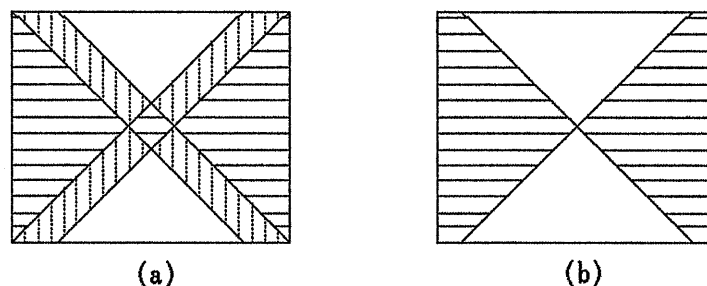

Figure 4-2
⑩ Turn the **PILOT** key off.
⑪ Press the MODULATION FUNCTION **SUB** key to turn it ON.
Waveforms like the ones shown in Figure 4-2 appear on the oscilloscope, so rotate the ⑤ PILOT PHASE semi-fixed adjuster, adjusting so a waveform like Figure 4-2 (b) is formed.